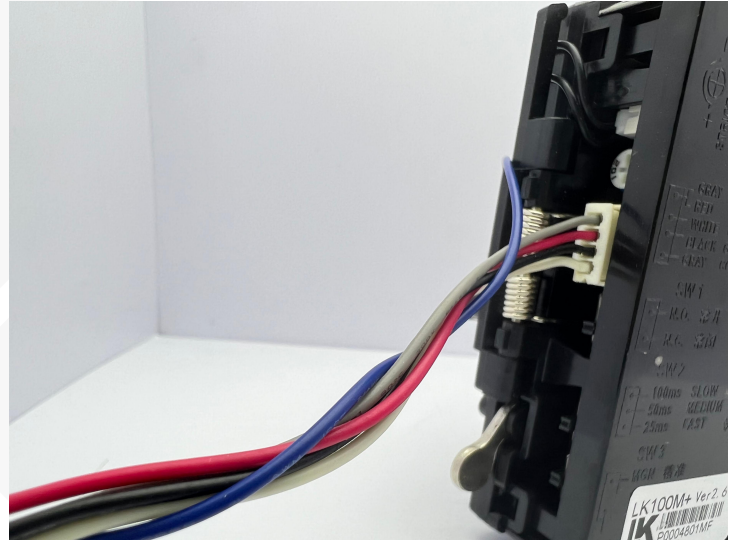

Figure 2
- b. Wrap the blue RF antenna around the coin acceptor wire (as in Figure 2), the score wire, the control panel wire and the place susceptible to interference. It is recommended to wrap more than 5 loops (the more coils, the stronger the signal) ;